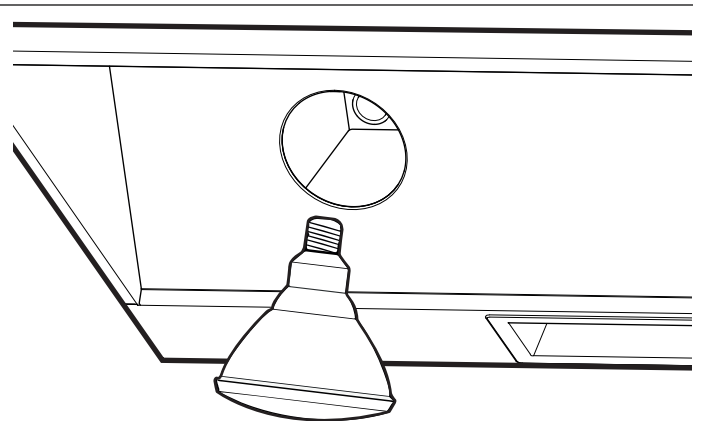

Figure 30: Heat Lamp Replacement
- Turn heat lamp clockwise to install (*Figure 30*).